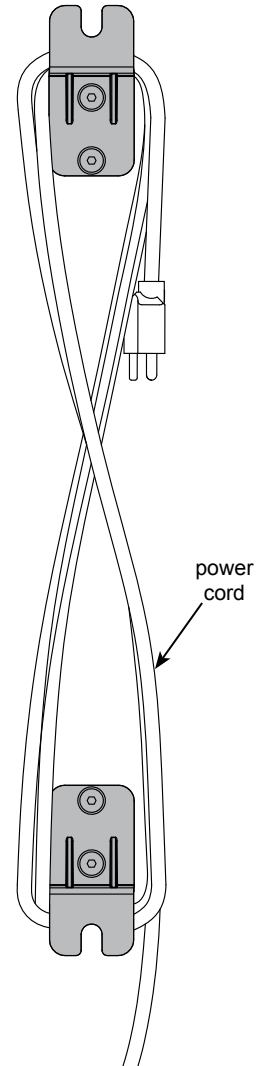

Figure 3B
2. Route the power cord through the side panel grommet and wrap excess cord around the brackets as necessary. **Figure 3B**.